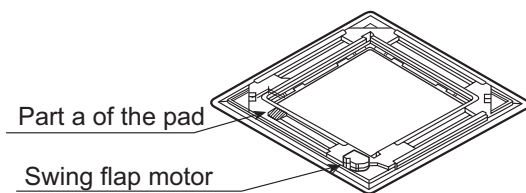

Fig. 5
- Install part a of the pad on the place shown in Fig. 5. Refer to Fig. 6.